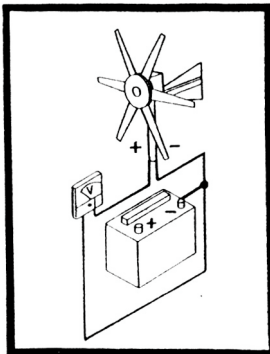

Figure 2
1. The output from the generator can be checked with the machine still erected on the mounting pole by connecting an ammeter in the circuit. The ammeter will only show a reading if there is sufficient wind blowing i.e. above 5 mph (Fig.2.).
2. If there is no reading on the ammeter, disconnect the output leads from the battery and check the voltage by connecting a DC voltmeter across the output leads from the generator. If the measured voltage is over 12 Volts the wind turbine is performing correctly and indicates a faulty battery or battery connections (Fig.2).